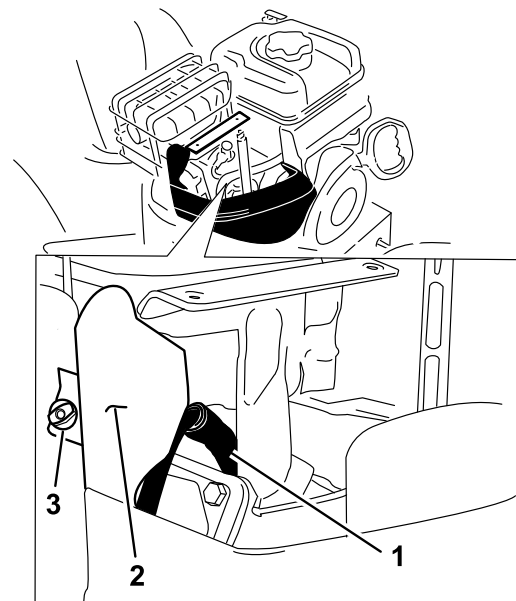

Figure 56
4. Remove the bracket thumb screw and the bracket (Figure 56).
5. Clean around the base of the spark plug (Figure 56).